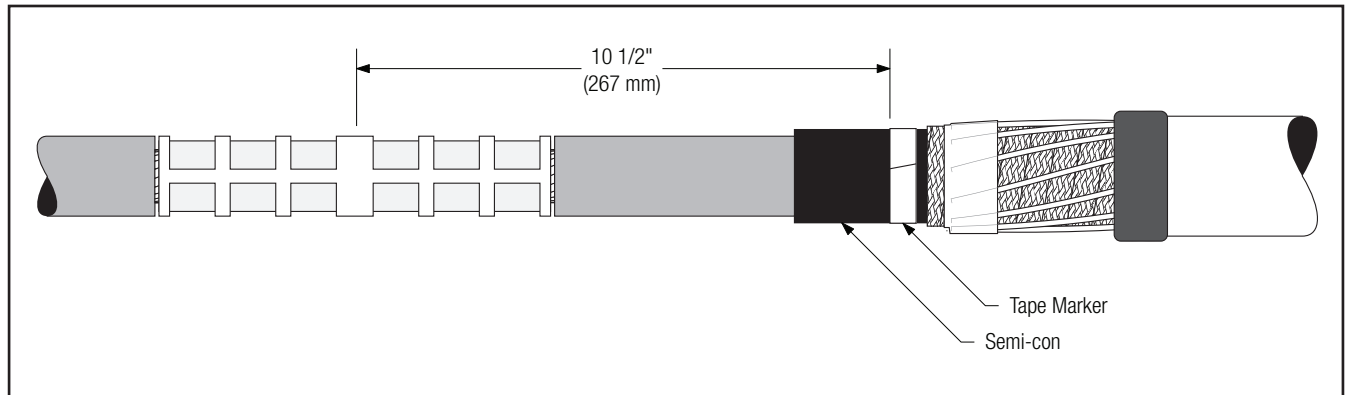

Figure 13
- 4.1 Apply a tape marker to semi-con insulation shield on cable which does not contain splice. Measure 10 1/2" (267 mm) from center of connector (*Figure 13*).